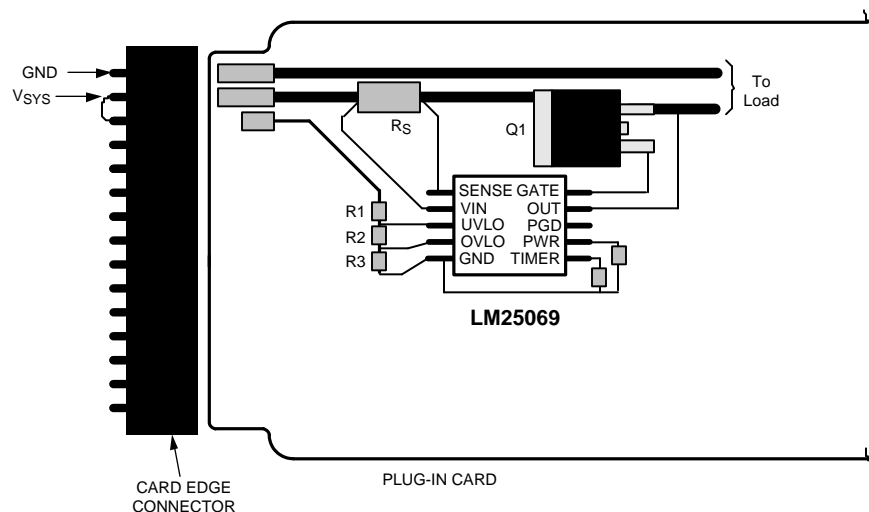

Figure 36. Recommended Board Connector Design
- The board's edge connector can be designed to shut off the LM25069 as the board is removed, before the supply voltage is disconnected from the LM25069. In Figure 36 the voltage at the UVLO pin goes to ground before V_{SYS} is removed from the LM25069 due to the shorter edge connector pin. When the board is inserted into the edge connector, the system voltage is applied to the LM25069's VIN pin before the UVLO voltage is taken high.